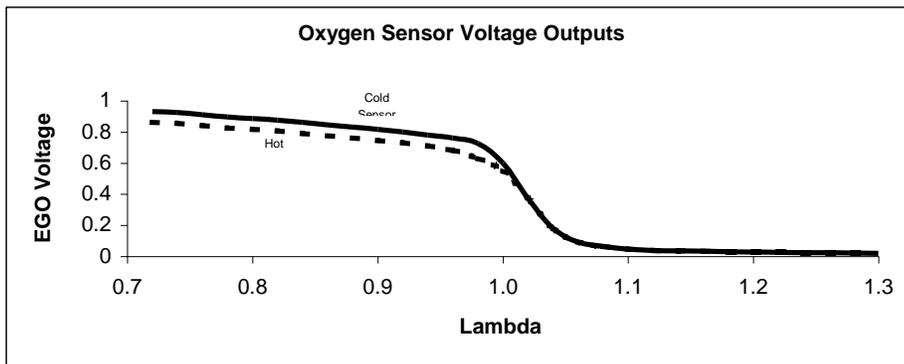

Figure D.4.7 :
- Oxygen sensors have a large degree of inaccuracy when operated at different temperatures. **Figure D.4.7** shows a characteristic voltage curve variation with EGO sensor temperature.